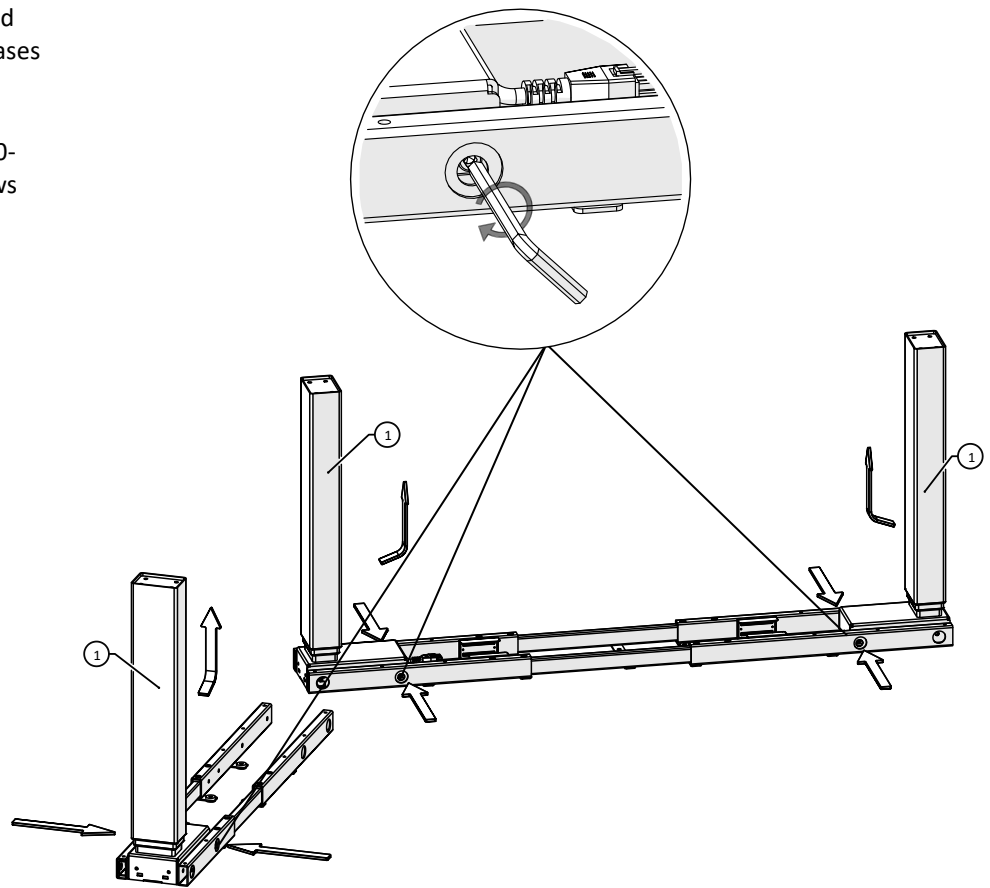

Figure 1
2. Set the base columns/legs at 90-degree angle; tighten the screws inside the frame using an Allen Key, (Figure 1).